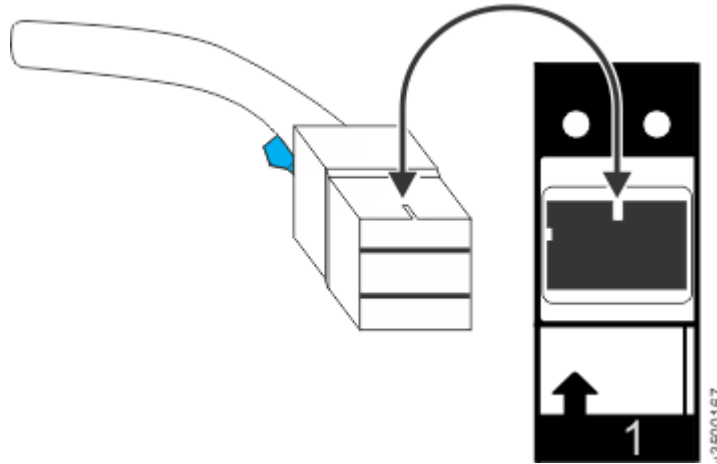

Figure 111. Proper orientation for SAS cable connector
- Figure 111 on page 166 shows the correct orientation. The blue tab is always below the port for expansion enclosure attachment SAS cables.